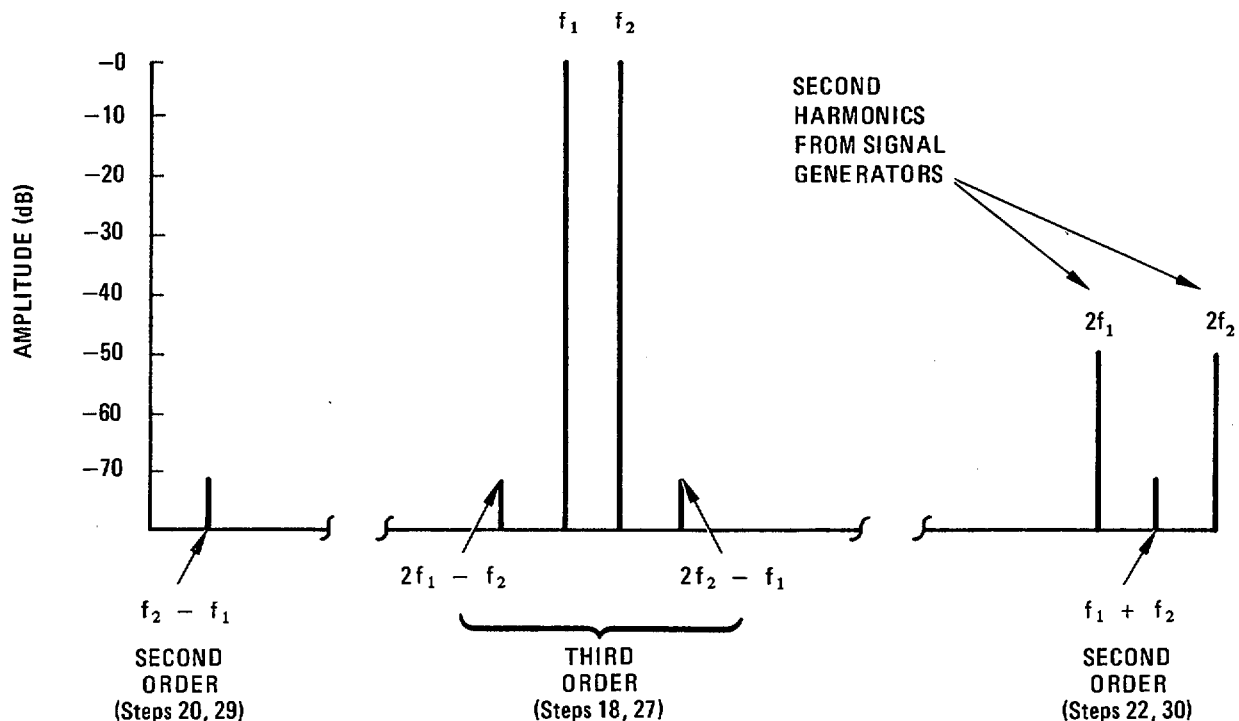

Figure 4-15. Intermodulation Distortion Products
18. Reduce spectrum analyzer RESOLUTION BW to 3 kHz and check for third order intermodulation distortion products at approximately 3 divisions to either side of center graticule line (see NOTE below). They should be more than 70 dB below input signals (-100 dBm on spectrum analyzer display). (See Figure 4-15.)
20. Set spectrum analyzer TUNING to 1 MHz and momentarily press FREQUENCY CAL switch. Set RESOLUTION BW to 3 kHz and adjust VIDEO FILTER as necessary for more than 70 dB display range. Check for second order intermodulation distortion product ($f_2 - f_1$) near center of display (see NOTE below). Second order intermodulation distortion product should be more than 60 dB below the total applied signal (- 100 dBm on spectrum analyzer display). (See Figure 4-15.)
22. Check for second order intermodulation distortion product ($f_1 + f_2$) between $2f_1$ and $2f_2$ signals (see NOTE below). Set RESOLUTION BW to 3 kHz and adjust VIDEO FILTER as necessary for more than 70 dB display range. Second order intermodulation distortion product should be more than 70 dB below total applied signal (- 110 dBm on spectrum analyzer display). (See Figure 4-15.)
29. Set spectrum analyzer TUNING to 1 MHz and momentarily press FREQUENCY CAL switch. Set RESOLUTION BW to 3 kHz and adjust VIDEO FILTER as necessary for more than 70 dB display range. Check for second order intermodulation distortion product ($f_2 - f_1$) near center of display (see NOTE below). Second order intermodulation distortion product should be more than 60 dB below total applied signal (-100 dBm on spectrum analyzer display). (See Figure 4-15.)
30. Set spectrum analyzer TUNING to 8 MHz and check for second order intermodulation distortion product ($f_1 + f_2$) between $2f_1$ and $2f_2$ signals. (See figure 4-15.) Second order intermodulation distortion product should be more than 60 dB below total applied signal (- 100 dBm on spectrum analyzer display). (See NOTE above.)